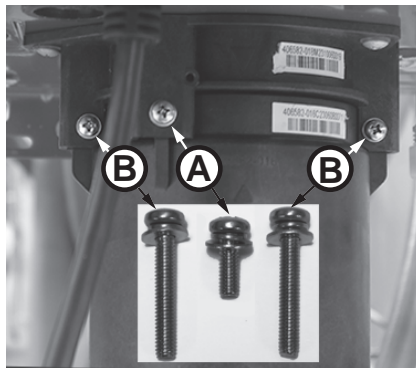

Figure 22 - Identify cartridge screws
- 5 Locate the three (3) screws securing the X3®/Bypass cartridge as shown in Figure 22. Remove the (A) M4-12mm screw and the two (B) M4-25mm screws from cartridge. Place screws aside in a safe place for reinstallation.